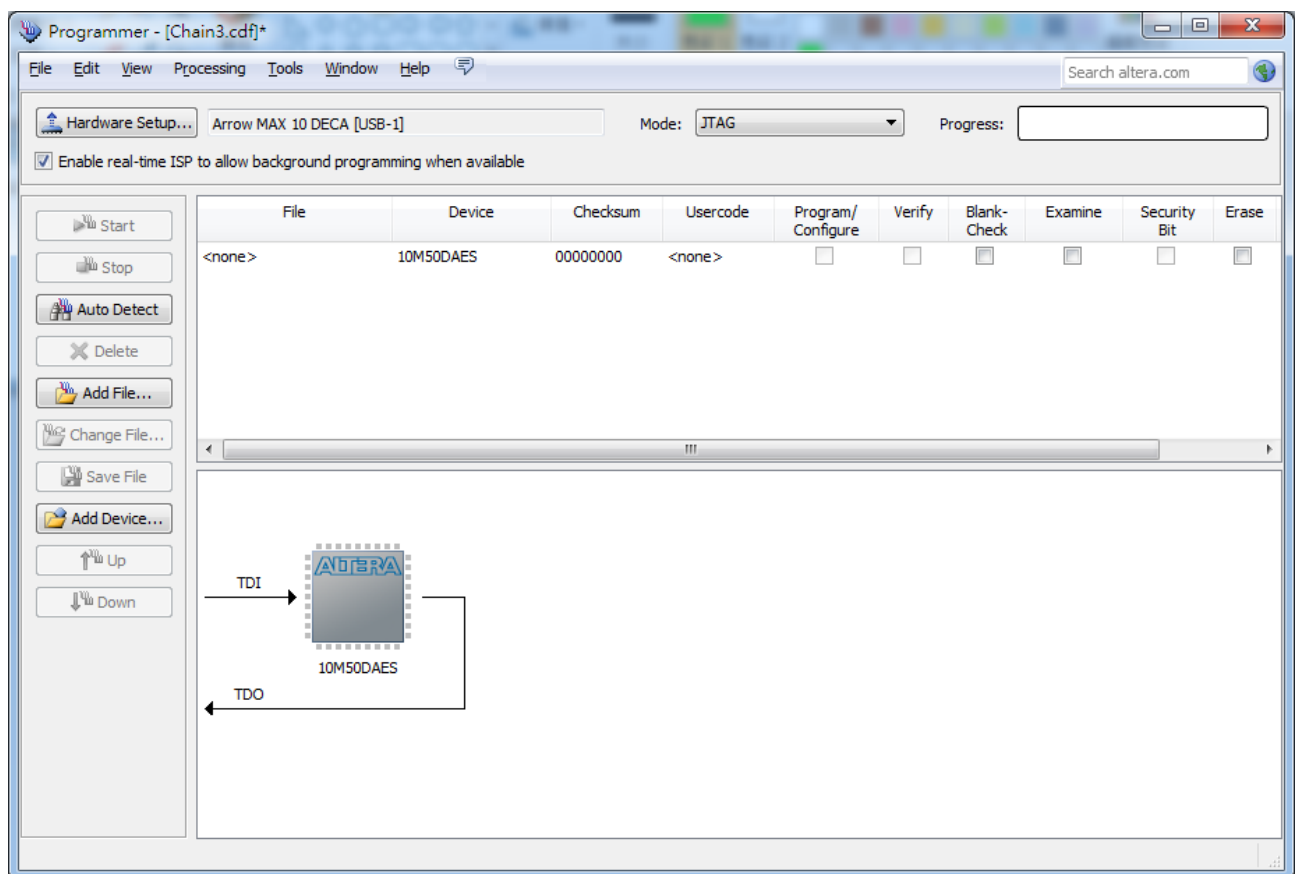

Figure 3-4 FPGA detected in Quartus programmer
3. FPGA is detected, as shown in Figure 3-4.